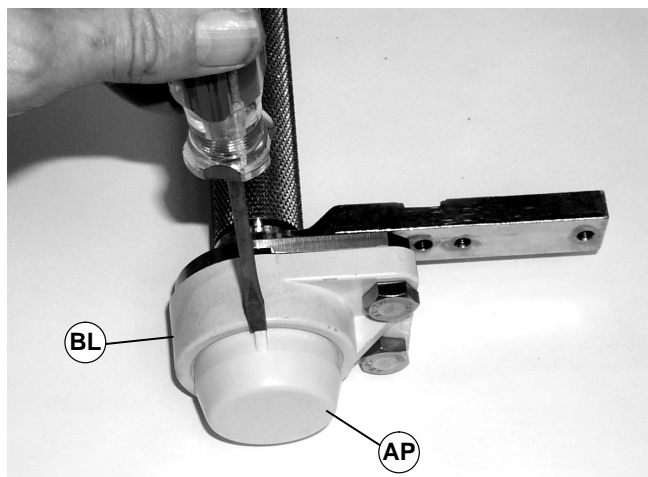

Figure 36
5. On closed end of drive spindle assembly (BL of Figure 36), use a screwdriver to pry off bearing cover (AP).
7. On closed end of drive spindle assembly (BL of Figure 36), install bearing cover (AP).